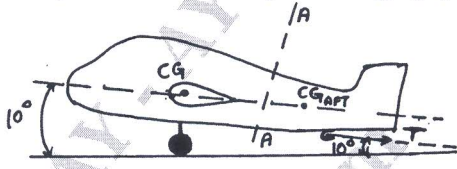

Fig.Q1(b)
- b. An aircraft of 45 kN lands on a deck of an aircraft carrier and is brought to rest by means of arrestor hook, if the deceleration included by the cable is 3g. Determine the tension T in the cable, the load on the under carriage strut and shear and axial loads in the fuselage aft at the section A-A is 4.5 kN. Also calculate the length of the deck covered by the aircraft before it is brought to rest if touchdown speed is 25 ms-1. [Refer Fig.Q1(b)] (12 Marks)